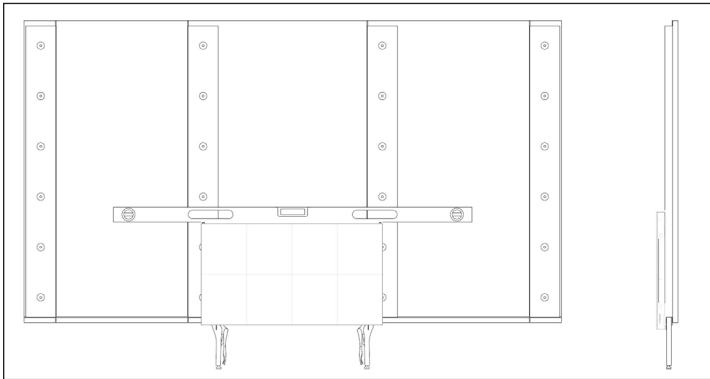

Figure 8: Secure Installation Jigs to Mounting Tube
- b. Use C-clamps to secure the bottom of the installation jigs to the bottom of the mounting tubes. Refer to **Figure 8**.